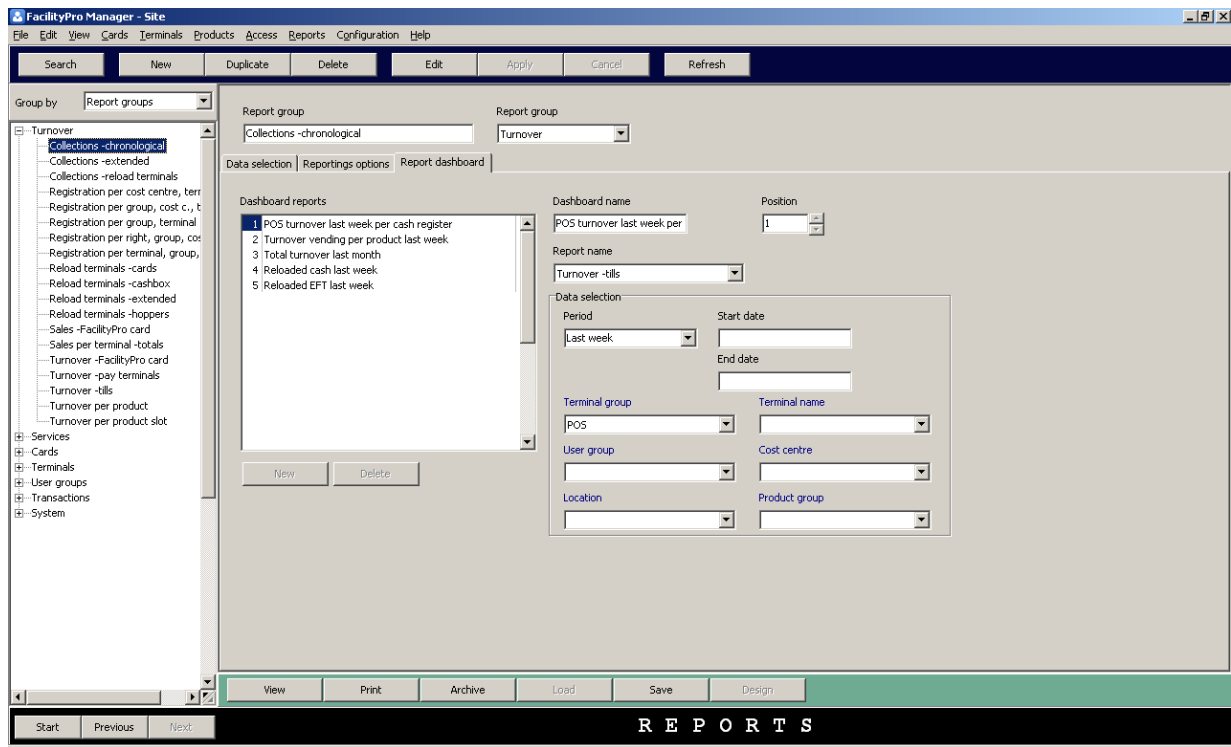

Figure 7-4 The tab 'Report dashboard' of the reports data screen
3. Click the tab 'Report dashboard'. On the tab 'Report dashboard' (Figure 7-4) you can see which reports are already on the report dashboard in the field 'Dashboard reports'.
3. Click the tab 'Report dashboard'. On the tab 'Report dashboard' (Figure 7-4) you can see which reports are on the report dashboard in the field 'Dashboard reports'.